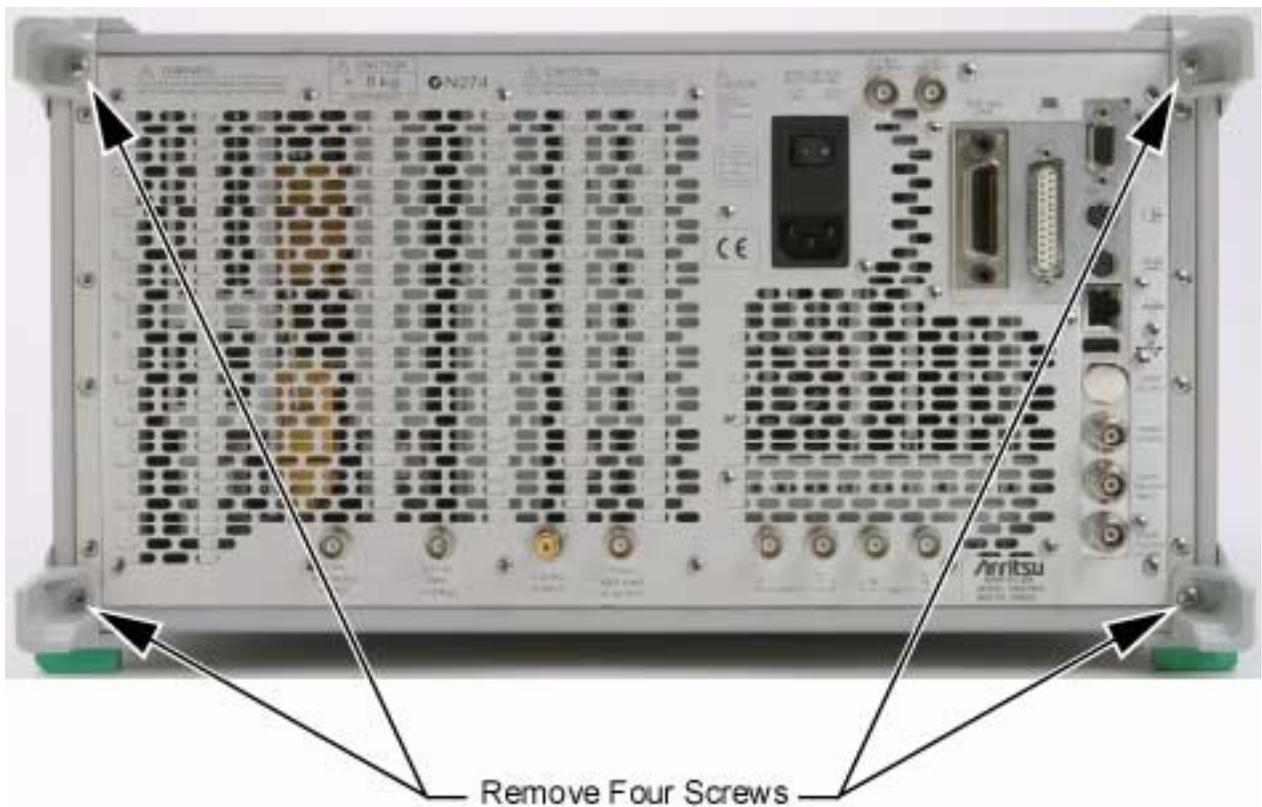

Figure 6-1. Chassis Cover Rear Panel Screws
Step 1. Remove the four rear panel mounting screws as shown in Figure 6-1, below.